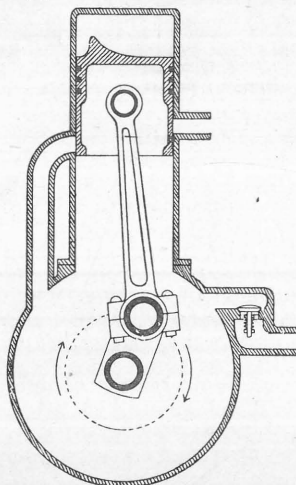

Fig. 11.
Fig. 11 shows what a two-port engine is like. We will suppose the engine to be turning in the direction shown by the arrow, and that an explosion has just taken place. The piston is at the top of its stroke and just commencing to come down. Now the case carrying the crankshaft is enclosed and the part of the cylinder below the piston is full of gas, that is, an explosive mixture of air and petrol. How this gas is got into the crankcase we will explain later ; for the present we will simply suppose it is there. As the piston descends this gas is compressed into a smaller space, and so will rush out of any opening it can. We will leave this compressed gas where it is for a minute, and see what is happening above the piston.
there is compressed gas waiting to get out when it can. This gas, therefore, rushes up the pipe (C) into the cylinder, driving out all that remains of the exhaust through the port (A), and filling the cylinder with fresh gas. On the up stroke the port B is closed first, then port A, and the gas in the cylinder is compressed more and more, until the top of the stroke is reached. We then get back to the position shown in Fig. 11. The gas is exploded, the piston is driven down, and so the engine goes on running.